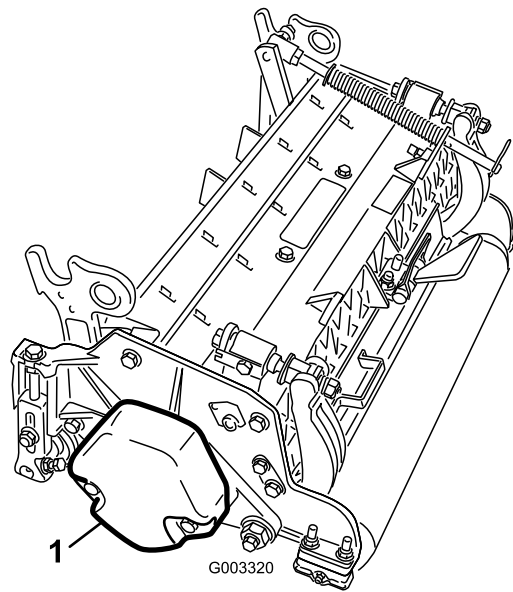

Figure 9
5. Make sure that the counter weight (Figure 9) is installed to the proper end of the cutting unit as described in the cutting unit *Operator's Manual*.